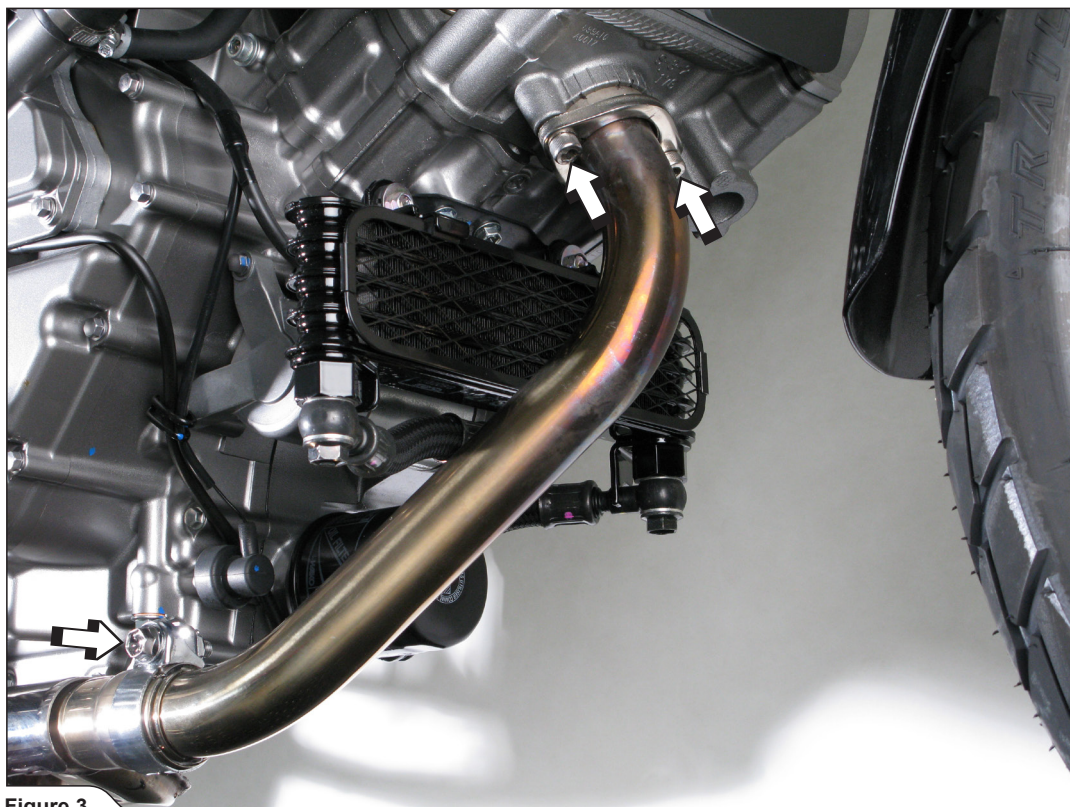

Figure 3
4. Untighten the marked header flanges' bolts and header - collector joint clamp (**Figure 3**).